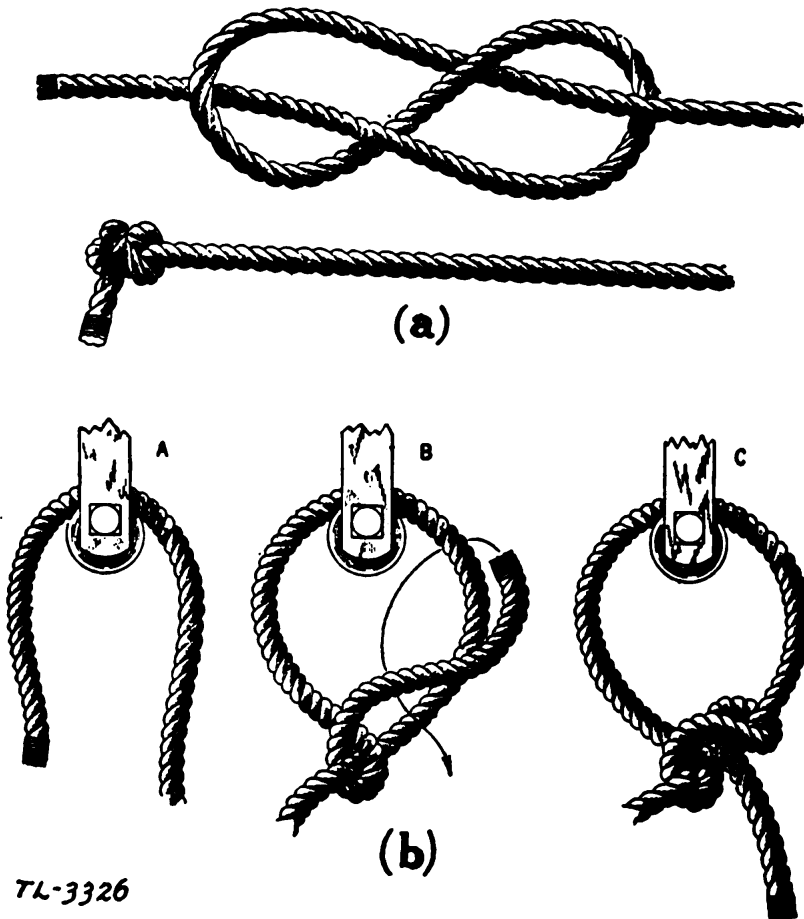

Figure 6
a. Figure eight knot.—This knot is used to prevent the end of a fall line from running through the blocks. See figure 6(a). Throw a turn into the rope leaving sufficient end to complete the knot, then pass the end around the rope and through the bight. Draw all parts down tight.
b. Block becket bend.—This knot is used when attaching a rope to the eye of a guy rod or to the becket of a block, where a temporary connection is desired. See figure 6(b).
(1) Pass the rope around the thimble on the becket of a block as shown in 6-A.
(2) Take a turn around the standing part outside of the bight as illustrated in 6-B.
(3) Take a second turn around the standing part through the bight, forming two half-hitches in reverse as shown in 6-C.